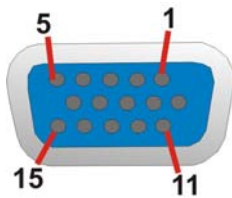

Figure 3-28: VGA Connector
- CN Pinouts:** See **Figure 3-28** and **Table 3-27**